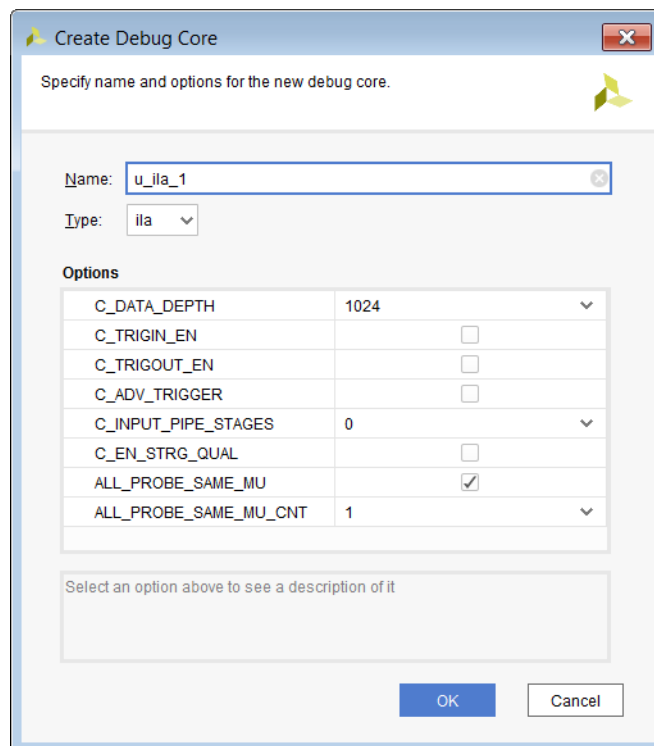

Figure 9-6: Creating a New Debug Port
2. Click **Create Debug Port** to open the dialog shown in Figure 9-6.